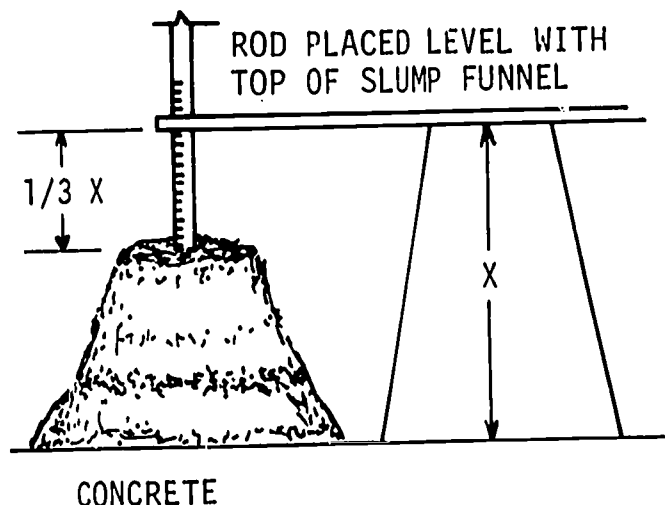

Fig. 41-1. A Slump Cone Test
7. Make a slump test. See Fig. 41-1. The concrete should slump about $\frac{1}{3}$ the height of the cone. If it does not, add a little more water and mix. Test again.